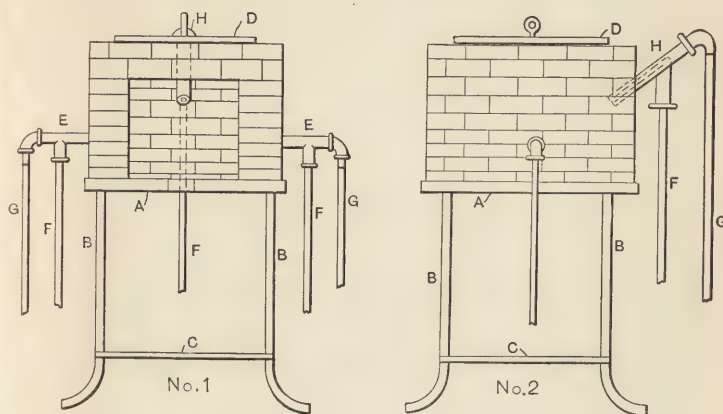

Fig. 1. Brazing Furnace.
**Brazing Furnace.**—In Fig. 1 are two views of a good brazing furnace, made from firebrick. The frame of the furnace consists of a cast iron plate *A*, with four holes drilled and tapped for legs *B* made from gas pipe. There are braces *C* around the legs at the bottom, to prevent spreading. The walls of the furnace are built up of firebrick on top of the flat plate and another iron plate is used to cover the top. This latter plate can be removed at any time to allow the brazing of such pieces as would have to project through the top of the furnace.
common to use gasoline, burners for which can be bought ready for use. An air blast must be provided for either type of burner. If gas is the fuel, burners can be made by using pipe fittings, as in Fig. 1. The front view shows two side burners made from  $1\frac{1}{4}$ -inch pipe fittings, gas connections being by pipes *F F* and air connections by the rubber hose *G G*. By using the hose the burners can be changed to slightly differ-